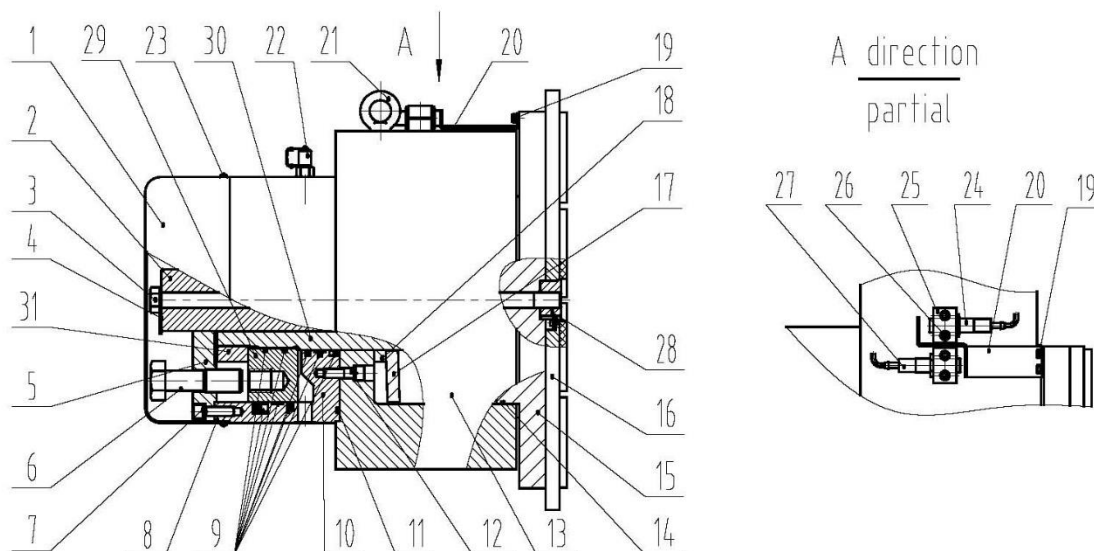

Fig. 4: List of main parts
Place the released brake on the installation position. Check whether the installation position is correct on the basis of the Fig.4 .
Please ref. to fig. 4: FDB.H brakes are shipped with transport screws (pos. 6) to hold the brake open. Before operating the brakes these screws must be removed. First, the cover (pos. 1) needs to be removed. Then the brake must be pressurized (opened) by HPU or hand pump. Then, transport screws can be unscrewed. Don't forget to mount the cover again.